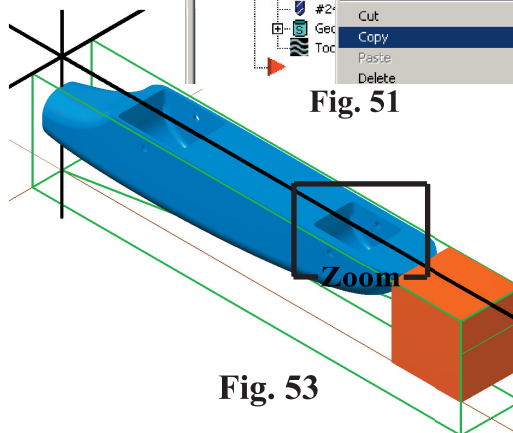

Fig. 53
Step 1. Zoom-in on the front wheel cutout. Use **F1** and make a zoom window, **Fig. 53**.